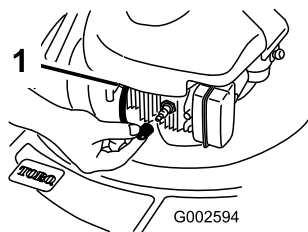

Figure 27
- Disconnect the spark plug wire from the spark plug and hook it onto the retaining post (Figure 27) before performing any maintenance procedure.